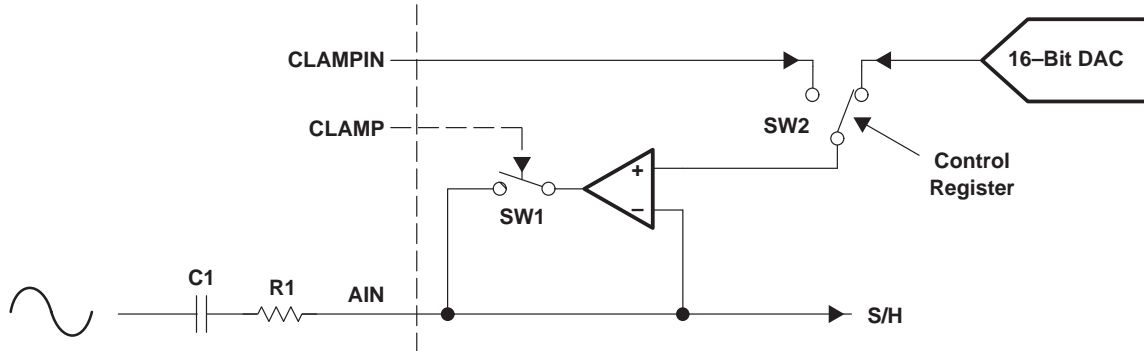

Figure 22. Clamp Operation
- **Internal Programmable Digital Clamp Input:** The THS1031 ADC features a programmable digital clamp circuit to set more precise clamping level to 1-LSB accuracy for dc restoration of video or ac coupled signals. Figure 22 shows the internal clamp circuitry and the external control signals needed for the digital clamp operation. To enable the digital clamp input source, write a 1 to bit 4 of the CONTROL register which will connect the switch SW2 to the output of the 10-bit clamp DAC. In the CLAMP register, bit 0 to bit 7 are used to set the clamp level input to the 10-bit DAC and bit 6–7 are used to select one of 4 equal clamping voltage sub-ranges as described in the description of CLAMP REGISTER for digital input mode. The clamp amplifier will then servo the voltage at the AIN pin to be equal to the clamp voltage applied at the CLAMPIN pin. After the desired clamp level is attained, the switch SW1 is opened by taking CLAMP back to logic low. Ignoring the droop caused by the input bias current, the input capacitor CIN will hold the dc voltage at AIN constant until the next clamp interval. The input resistor RIN has a minimum recommended value of 10 W, to maintain the closed-loop stability of the clamp amplifier.
- **Clamp Acquisition Time:** Figure 22 shows the basic operation of the clamp circuit in which the ac input signal is passed through an RC coupler.